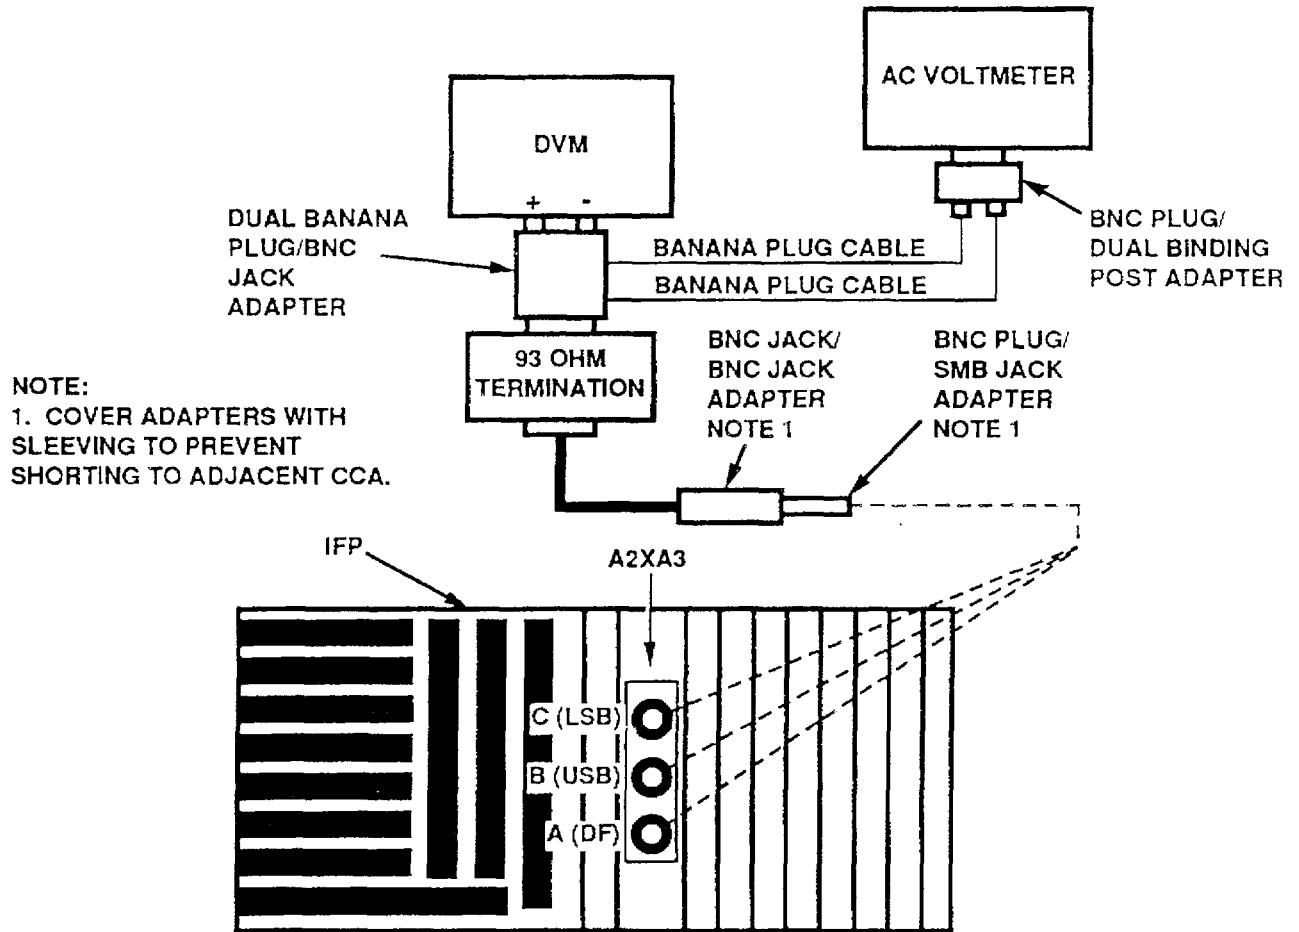

FIGURE 5-5. METER HOOKUP
5.	Connect ac voltmeter and DVM to IFP connector A2XA3-A (DF) as shown in figure 5-5.
19.	Connect ac voltmeter and DVM to IFP connector A2XA3-B (USB) as shown fig. 5-5.
32.	Connect ac voltmeter and DVM to IFP connector A2XA3-C (LSB) as shown in fig. 5-5.